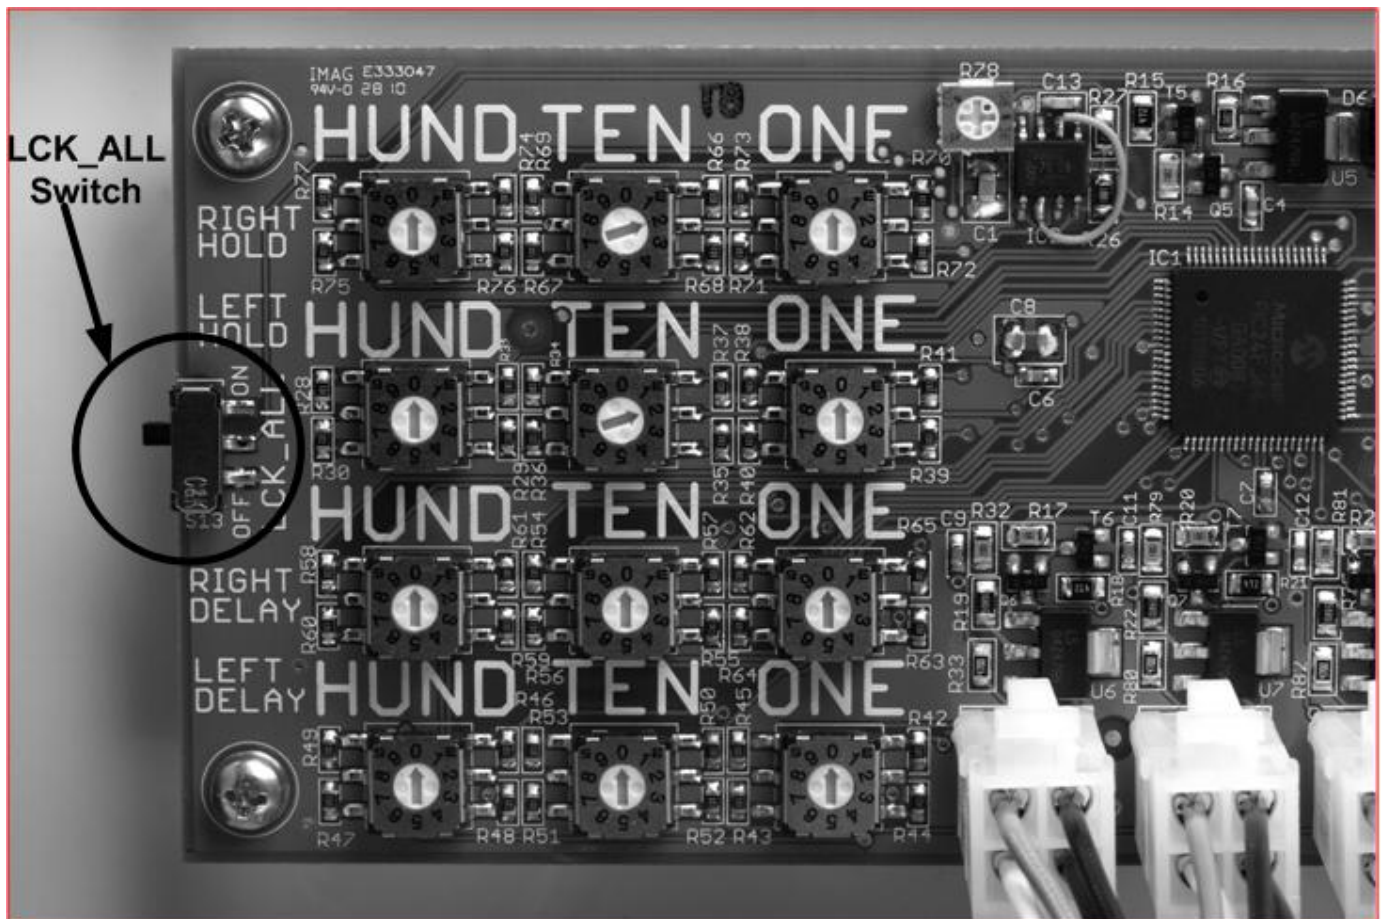

Figure 8-1
Open the IntelliGreen control cabinet cover to access the hold time, delay time and button configuration switches. See Figure 8-1
- Example 3 (Figure 8-1)
Valid Values: See Figure 8-1